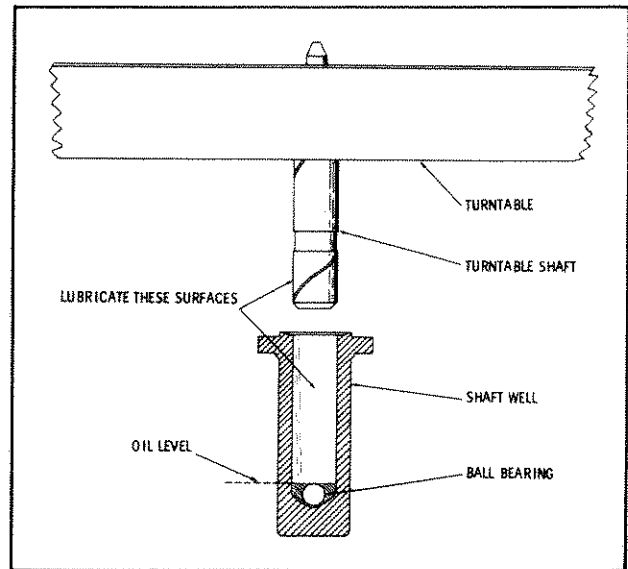

Fig. 1. Turntable Lubrication Points
6. Use enough lubricant to just cover ball bearing in bottom of shaft well (Fig. 1).